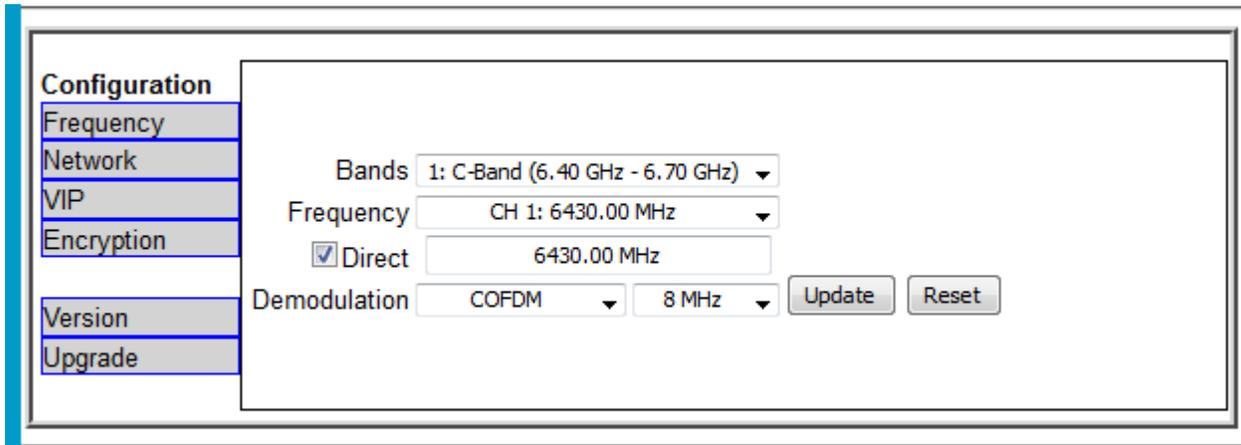

Figure 5-2: Real Time Control and Configuration Section
Click on the ‘Frequency’ button to access the frequency controls as shown in **Figure 5-2**. To change to a pre-configured frequency:
2. Put the mouse in the direct frequency text box and change to the desired frequency. The frequency must be in the format as shown in **Figure 5-2**, and within the band of the CRX6.